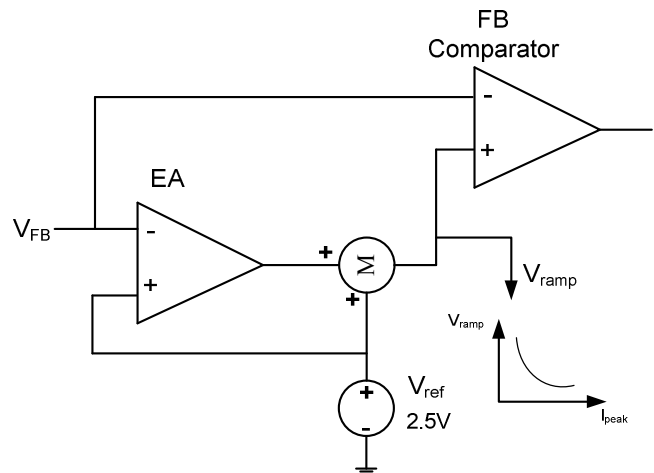

Figure 5: EA and Ramp Compensation
To improve load regulation, the MP150 implements an error amplifier (EA) compensation function (Figure 5). The MP150 samples the feedback voltage 6 μs after the MOSFET turns off. EA compensation regulates the 2.5V reference voltage with the load, thus improving the power module regulation.
An internal ramp compensation circuit precisely maintains the output voltage. An additional exponential voltage sinking source pulls down the feedback comparator's reference voltage as shown in Figure 5. The ramp compensation is relative to the load conditions: Under full-load conditions, the compensation is $\sim 1mV/\mu s$; With a